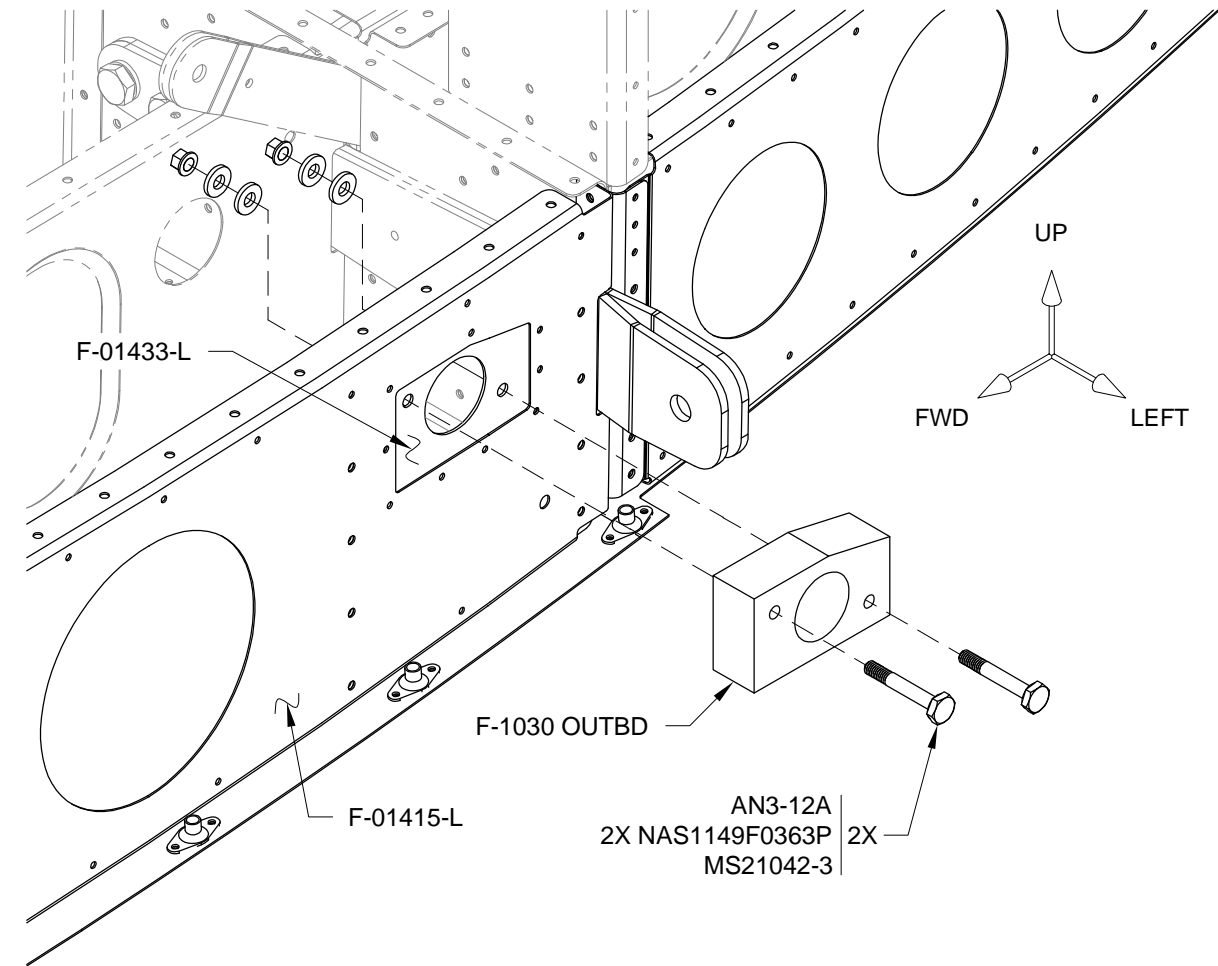

FIGURE 3: INSTALL OUTBOARD BUSHING (LEFT SIDE SHOWN)
Step 3: Bolt the two F-1030 Outboard Bushings to the F-01433-L & -R Flap Block Brackets as shown in Figure 3.